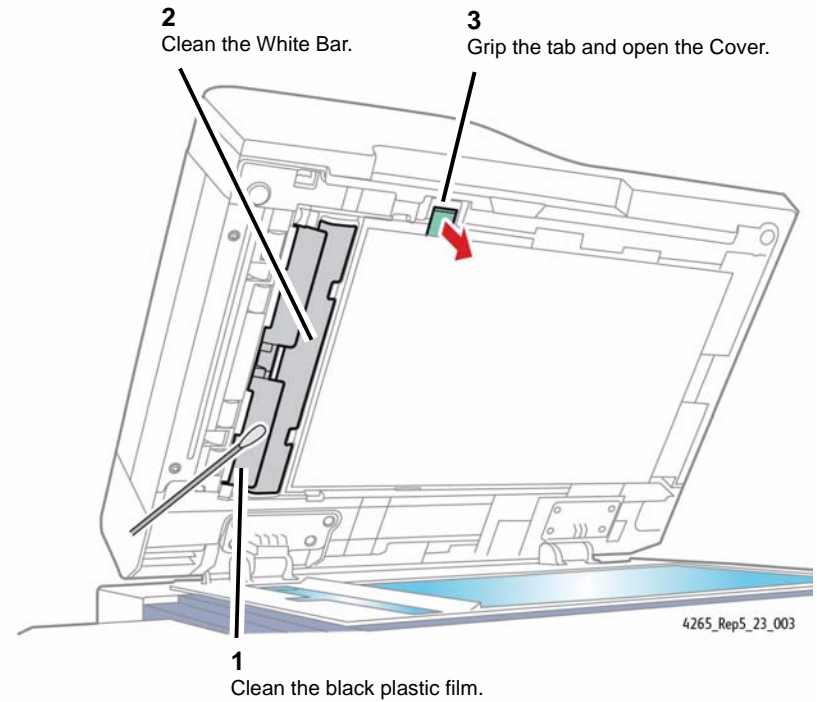

Figure 3 Cleaning the Film and the White Bar
7. Clean the black plastic film and the White Bar (Figure 3).